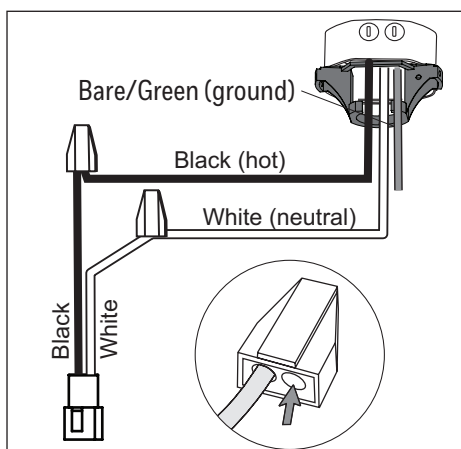

Figure 5.1
- Use push-in connectors to connect the supply wires from outlet box to the lead wires according to the wiring diagram and the following instructions (Figure 5.1):